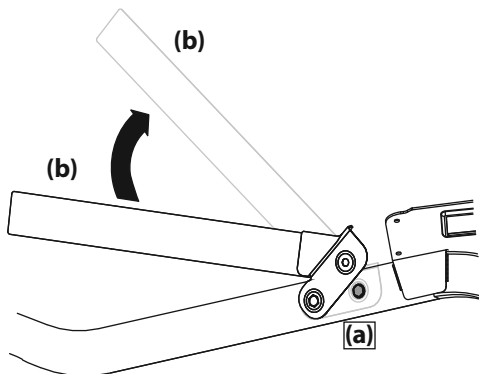

Figure 3
- Remove the two hex washer screws (a) partially installed on the frame. See Figure 3.
- Rotate the upper hoop (b) into position. See Figure 3.